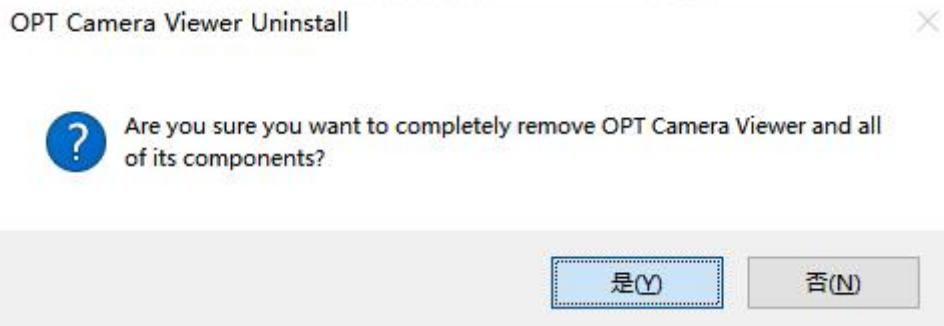

Figure 3-1 Prepare to Uninstall Window
2. If the driver has been installed before, a window as shown in Figure 3-1 will pop up. Confirm whether to uninstall it automatically and reinstall it as required. If yes, start uninstalling.